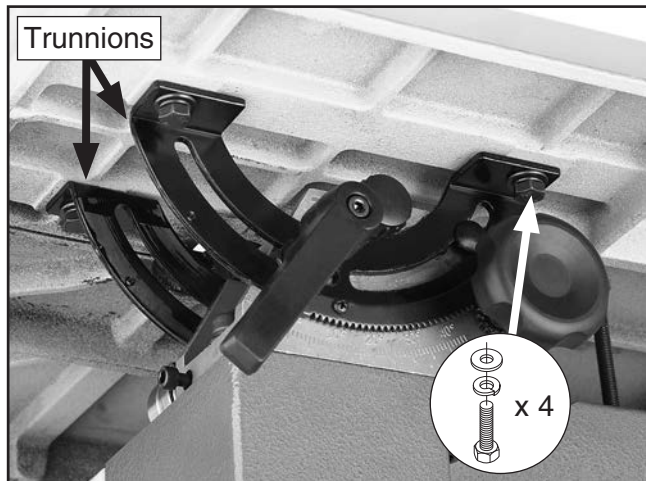

Figure 24. Mounting the table.
8. **Models G0513 and G0513ANV:** Secure the table to the trunnions, as shown in **Figure 24** with the (4) M8-1.25 x 16 hex bolts, 8mm lock washers, and 8mm flat washers.